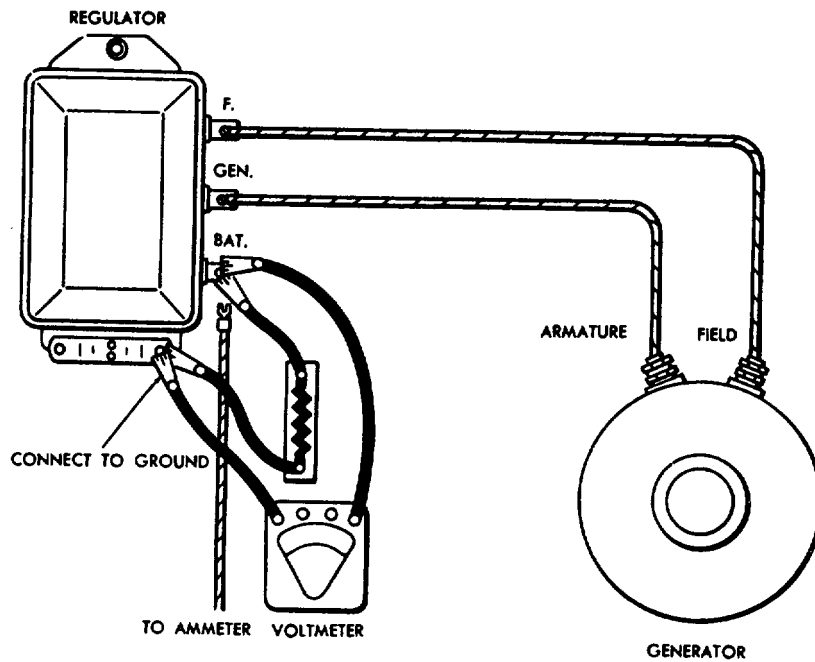
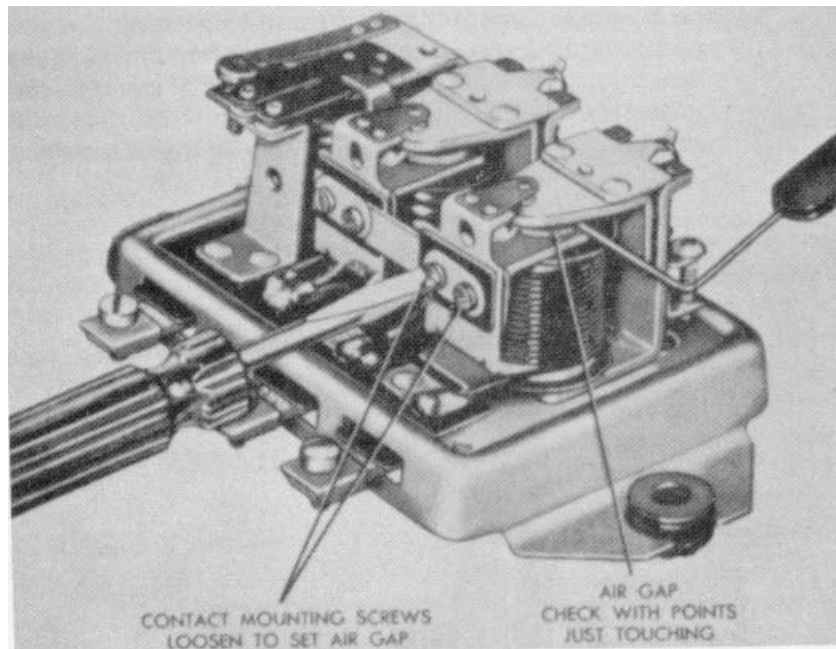
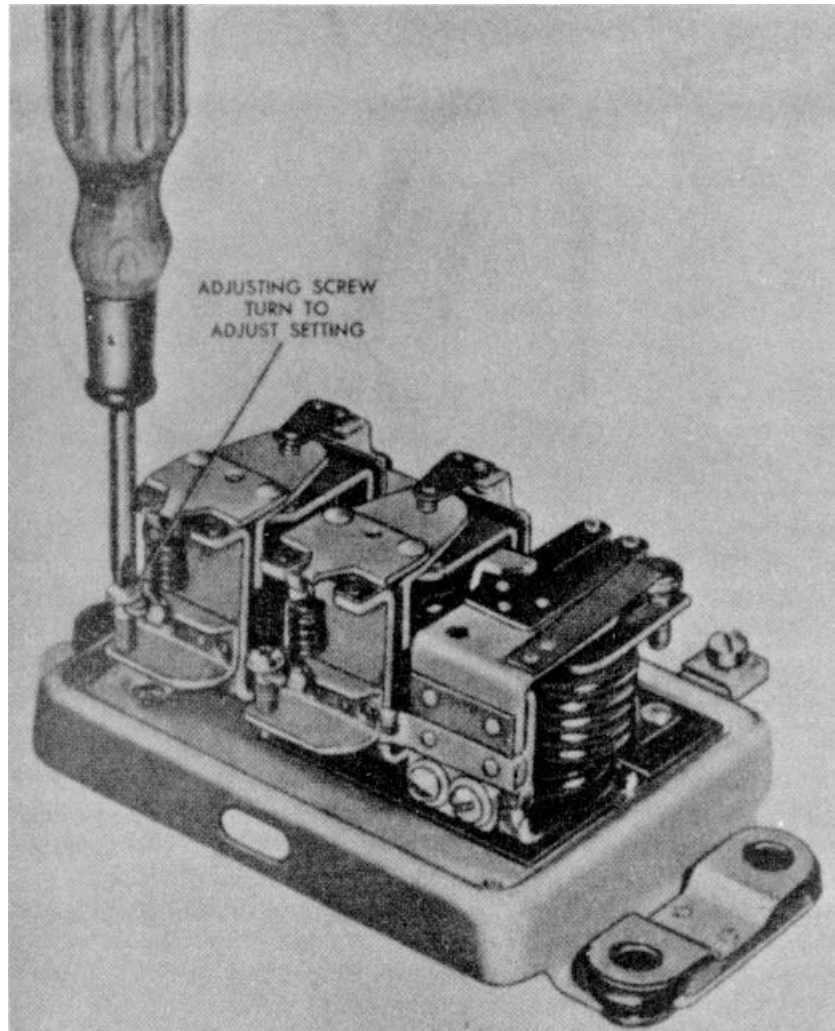
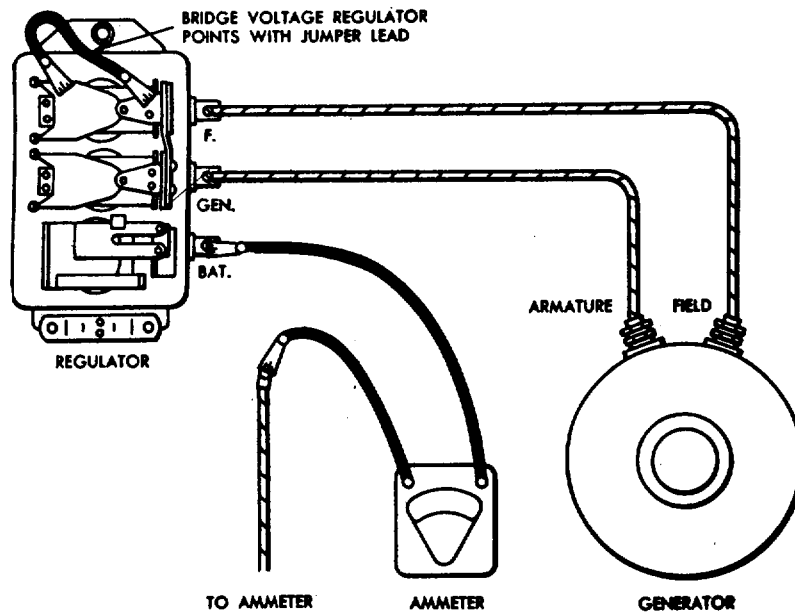

Figure 86. Checking voltage regulator setting.
Figure 87. Adjusting voltage regulator air gap.
Figure 88. Adjusting voltage regulator setting.
Figure 89. Checking current regulator setting.
at 25.5 volts. If the contacts do not close at the specified voltage, disconnect the regulator. Measure the air gap between the armature and the center of the core with the contacts closed (fig. 88). The air gap should be 0.017 inch. Loosen the adjusting screws at the back of the relay and raise or lower the armature as
- (2) *Voltage regulator.* Disconnect the lead from the BATTERY terminal and connect a 7-ohm resistor between the BATTERY terminal and the regulator base (fig. 86). Connect a voltmeter across the 7-ohm resistor. Operate the generator at medium speed, and with the regulator at operating temperature, note the voltage setting. The voltage regulator contacts should open at 28.5 volts. The regulator cover must be, on for this test. If the contacts do not open at the specified voltage, disconnect the regulator. Measure the air gap with the points just touching between the center of the winding core and the armature (fig. 87). Push the armature all the way down by hand, release until the points come together and then measure the air gap. The air gap should be 0.075 inch. Adjust the air gap by loosening the contact mounting screws, and raising or lowering the upper contact support as required. Tighten the screws after adjustment. Turn the adjusting screw (fig. 88) in to increase the voltage setting or out to decrease the setting. After each change of voltage
setting put the cover on the regulator and connect the regulator as in figure 86. Reduce the generator speed until the contact points close, then bring up the speed until the contacts open at the voltage setting.
- (3) *Current regulator.* Connect the regulator to the batteries and generator. Bridge the voltage regulator contacts (fig. 89), and insert an ammeter in the BATTERY line. Operate the generator at medium speed and note the current regulator setting. The contacts should open at 10 amperes. If the contacts do not open at the specified current, disconnect the regulator. Measure the air gap between the armature and the center of the core with the contacts closed. Refer to the center unit in figure 87, and adjust the contacts the same as
for the voltage regulator discussed in (2) above. The air gap should be 0.075-inch. Turn the adjusting screw of the center unit (fig. 88) in to increase the current setting, and out to decrease the current setting. After each change of current setting put the cover on the regulator and connect the regulator as in figure 89.